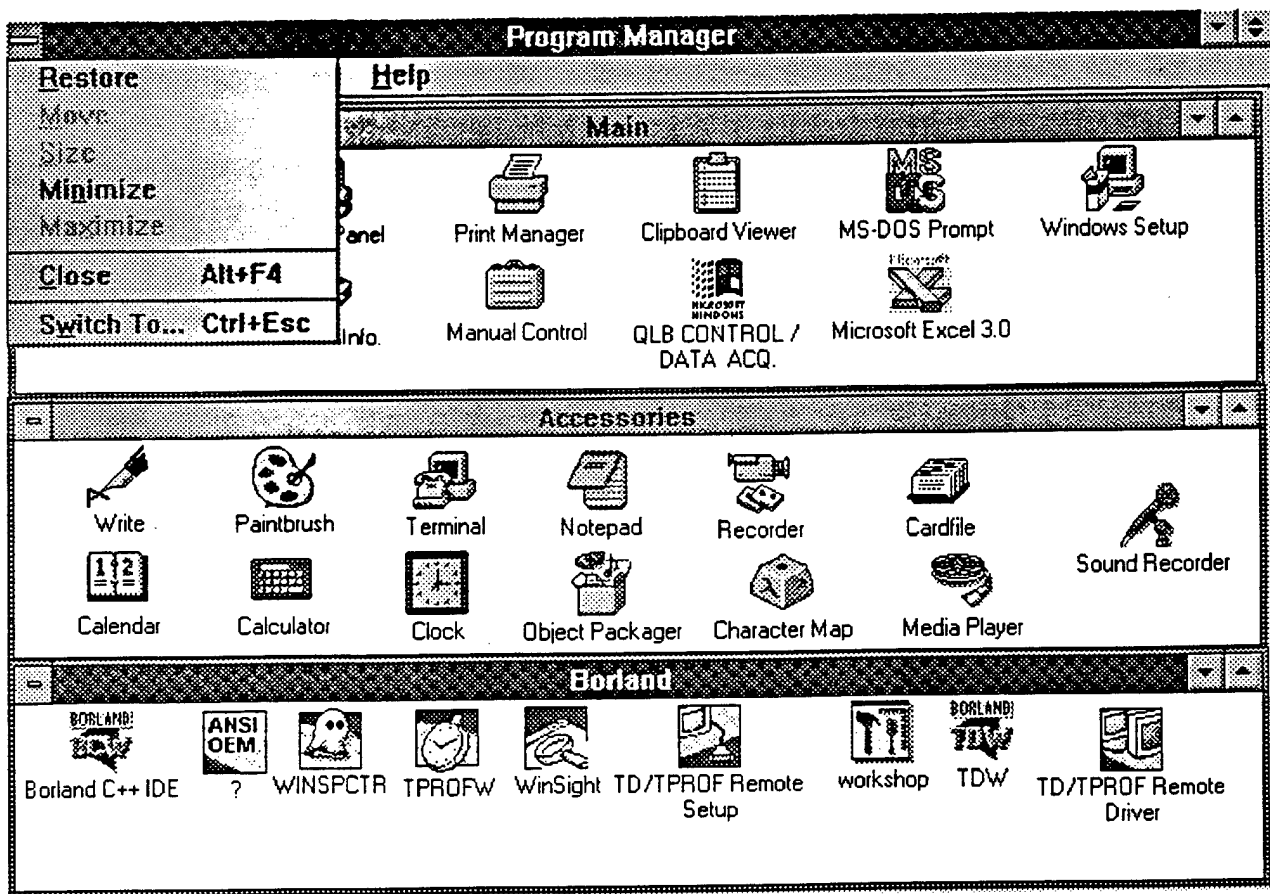

Figure 2-2. Windows Program - Main Menu.
2.2.3.2 Windows Program. Type "WIN/S" and ENTER. The monitor will display Program Manager screen (Figure 2-2).
With the computer program in Windows (Figure 2-2), use the mouse to execute the following: